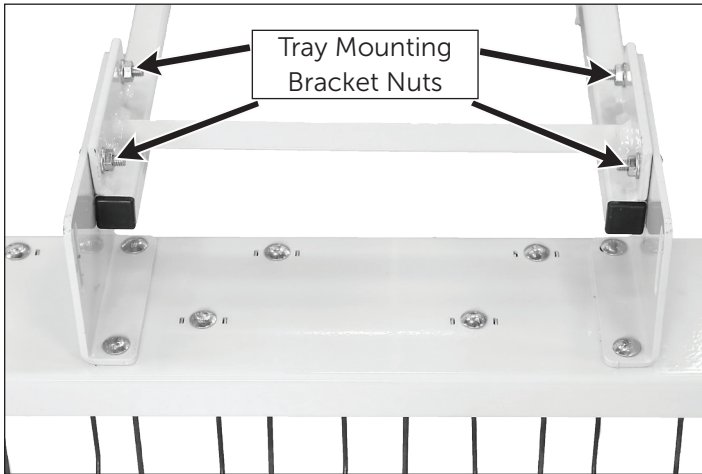
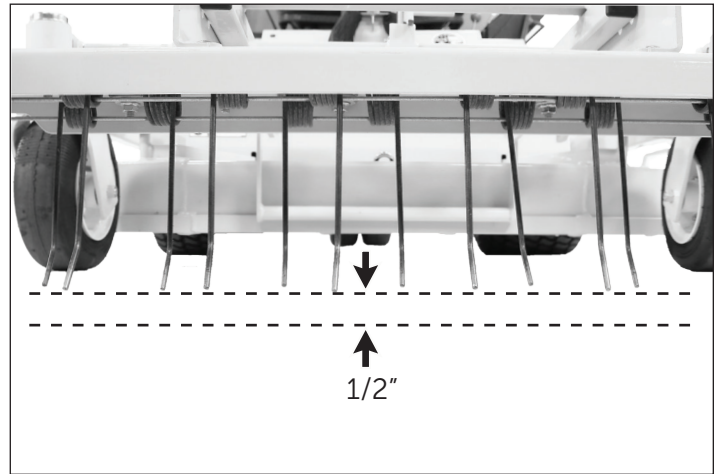

Figure 1.3
Figure 1.4
4. With the attachment mounted and on a level surface, loosen the four (4) nuts on the sides of the tray mounting brackets (figure 1.3). Adjust the tine tray so it is level, and the tine ends are located approximately 1/2" above the flat surface (figure 1.4). The tines should touch the surface when pushed back. Tighten the four (4) nuts.